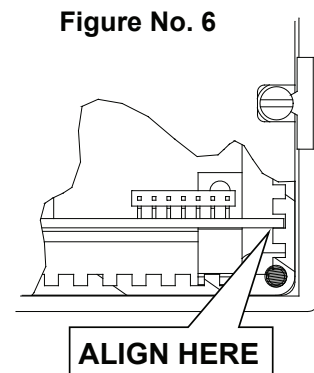

Figure No. 6
2. Align the front edge (display end) of the main board assembly with the second slot (from the bottom) on both sides of the enclosure. See Figure No. 6.